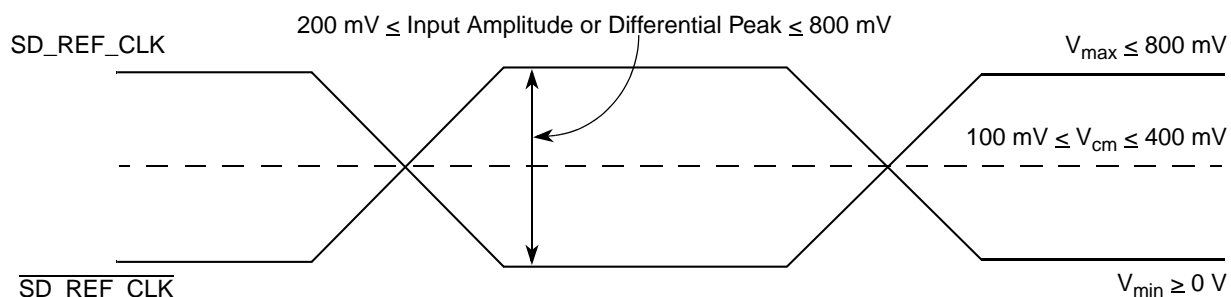

Figure 24. Differential Reference Clock Input DC Requirements (External DC-Coupled)
- For external DC-coupled connection, as described in Section 9.2.1, “SerDes Reference Clock Receiver Characteristics,” the maximum average current requirements sets the requirement for average voltage (common mode voltage) to be between 100 and 400 mV. Figure 24 shows the SerDes reference clock input requirement for the DC-coupled connection scheme.